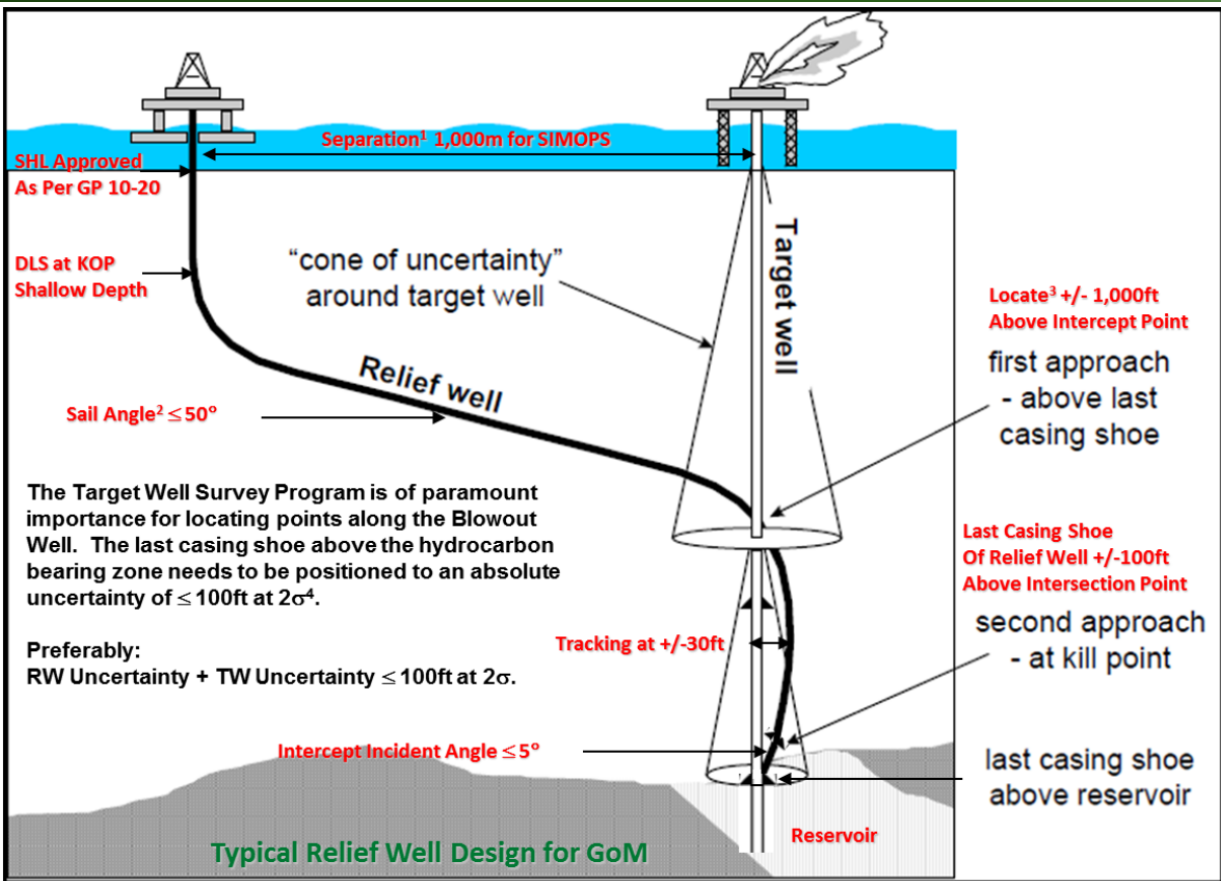

Figure 82—A typical example of relief well trajectory in GOM
8. Fig. 82 needs a little more explanation – I believe that this is a critical diagram. You know my views on 3-d uncertainty determination and depiction – the diagram assumes a “cone of uncertainty”, and refers to $< +/-100$ ft for the position of the casing shoe above the reservoir. The diagram illustrates GOM, and so we may assume 15k – 20k ft well depth. This gives an AHD accuracy of $< +/- 100/20k = <0.5\%$ for AHD (ignoring Az & Inc.) which is the limit of what is achievable using strapped pipe and no correction. It is important to mention this (in my opinion) because it sets that standard for AHD accuracy that might be applicable. (Lucky drillers ! If so, they don't have to do anything different and SLB can log down !). Now, if anything more accurate than this is needed (?? what does “<” mean ??), THEN specific AHD measurement accuracy specifications have to be taken into consideration in order to achieve the then higher AHD accuracy requirements.
9. This brings me to my favorite subject, and there is no mention of AHD data accuracy at all in the text. A while ago I spoke with Roger about this and we were fixing on doing something – and never did. Now, when ranging the 3-d well bore positioning itself loses importance as soon as the ranging device(s) pick up the target well, so AHD is then essentially irrelevant as it is then a relative distance/position game. But – that does not remove the need for quantification of the AHD accuracy. As Figure 82 shows, the 3-d depiction of the relative positions to the wellbores to each other, to other wells and to the reservoir/geologies does have implications. While I agree that AHD is not a main issue here, there is a discussion of 3-d positioning so I do believe that at least a mention of this with reference to sources, is appropriate. As always, I am open to providing contribution, albeit under your guidance.